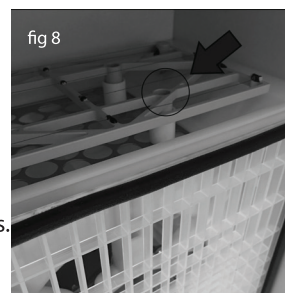

fig 8
- Use a pipe cleaner or small vacuum to gently clean the wires on the high energy grid. (fig 8)